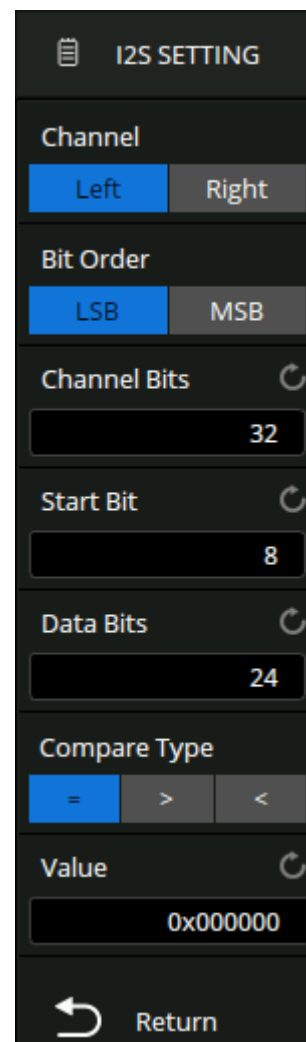

Figure 10.43
- The **I2S SETTING** menu will appear (Figure 10.43)